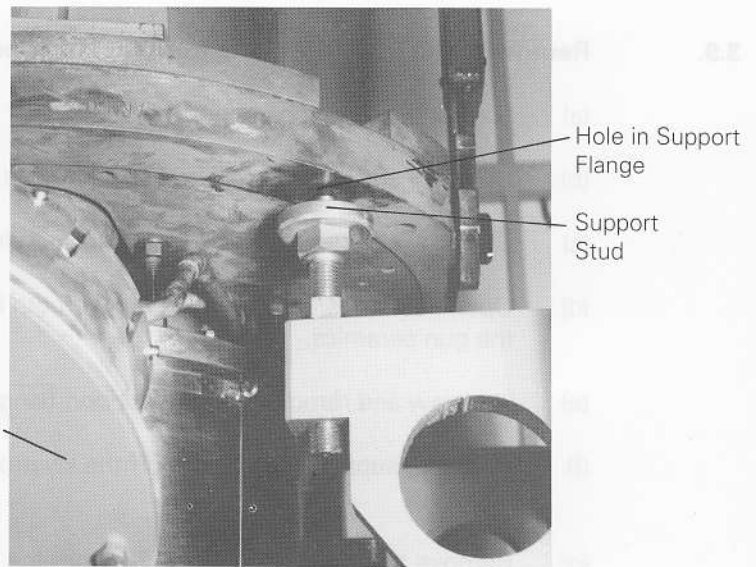

Fig. 22. Aligning Klystron with Trolley (TE 1167)
- (c) Carefully lower the klystron (Fig. 22) into the trolley (TE 1167), ensuring that the support studs correctly align with the holes in the support flange of the klystron. Retain the weight on the lifting yoke.
- (d) If necessary, slightly adjust the support studs (Fig. 22) until the collector water cooling jacket (TE 1170) is centred in the trolley.